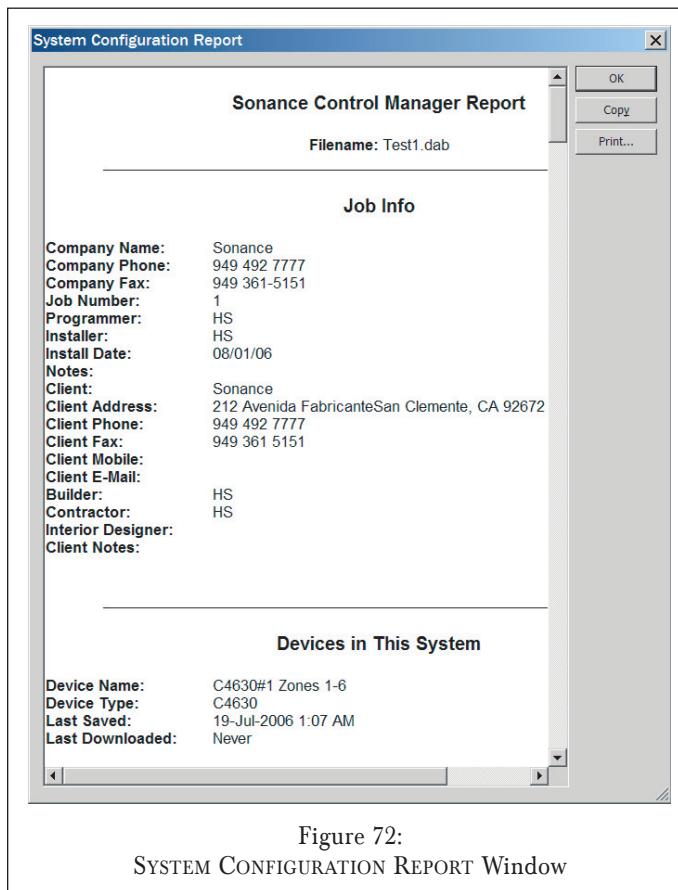

Figure 72:
2. Once the Sonance Control Manager has been updated, open the FILE menu and select SYSTEM CONFIGURATION REPORT. The SYSTEM CONFIGURATION REPORT window (Figure 72) will open.